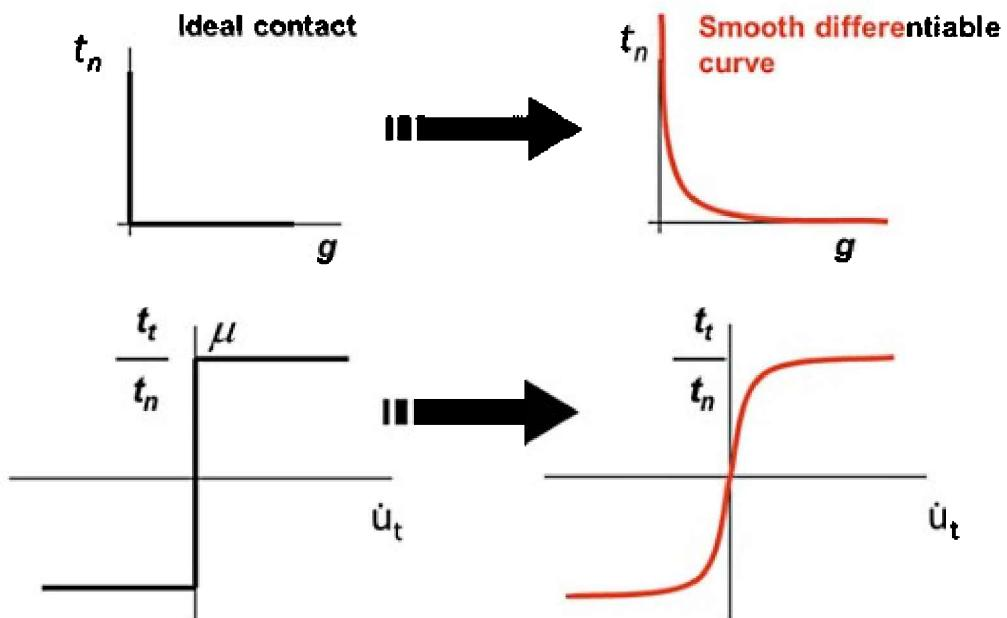

Figure 4.13. Replacing ideal contact constraints with non-ideal constraints
1. *Constraint Function Method* is the most general method. It works well in most cases and is used by default. The main concept of this method is the introduction of a constraint function to replace ideal contact constraints with non-ideal constraints (Figure 4.13). To set it, specify *TYPE* = 1 in the *BCTPARA* contact parameter set.